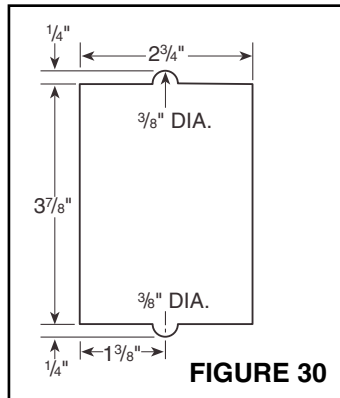

FIGURE 30
1. Make cutout according to dimensions in Figure 30.